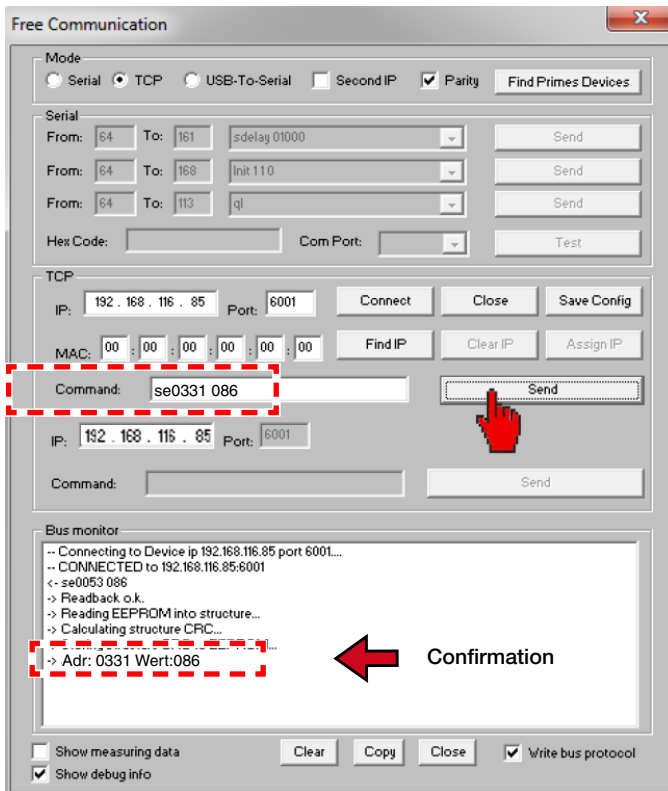

Fig. 10.6: Changing the IP address in the menu **Free Communication**
8. Click to **Send** and wait for the confirmation in the bus monitor (in Fig. 10.6 „-> Adr:0331 Wert: 086“)